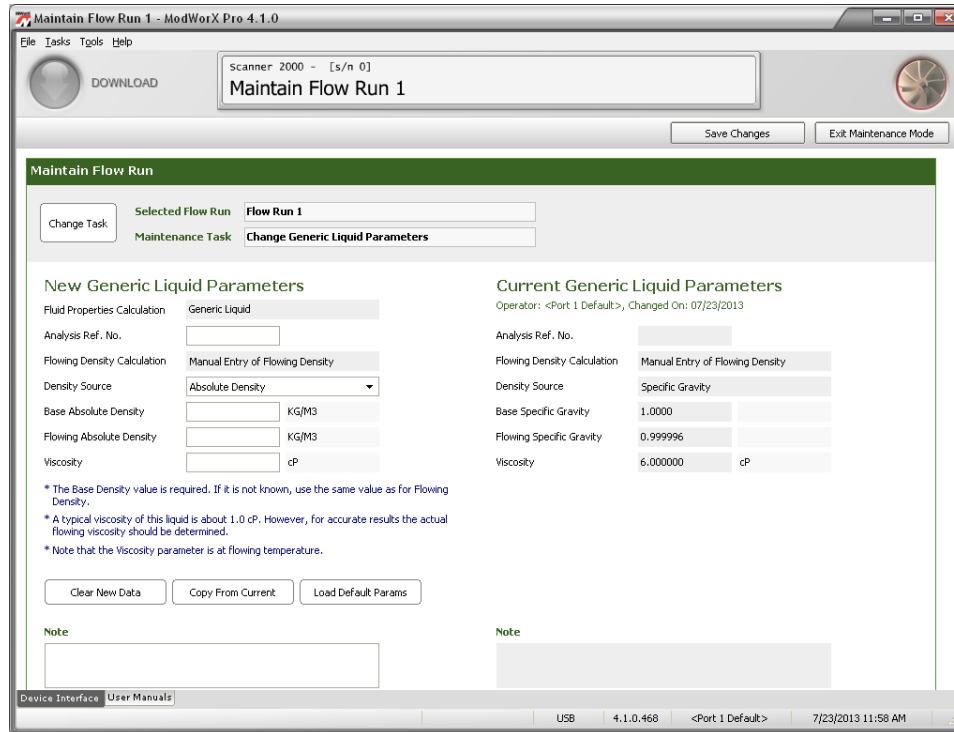

Figure 10.17
- b. Click **OK** to save the settings and return to the Maintain Flow Run screen (Figure 10.17, page 158).